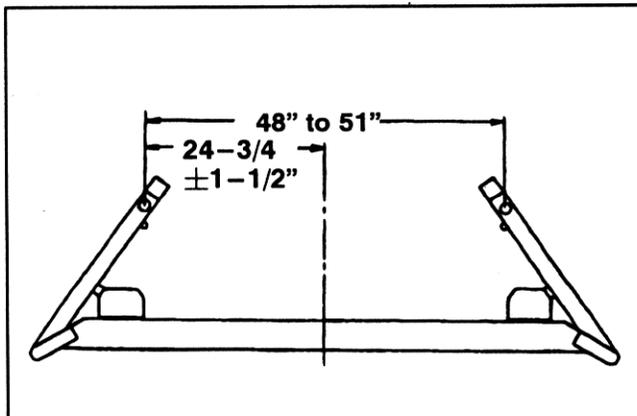

Figure 7
7. If Transport frame is to be used on a public road, the overall width of frame and mowers may not exceed 8 feet. Clevis on end of hydraulic cylinders and arm stops may be adjusted to attain desired width shown in figure 7.